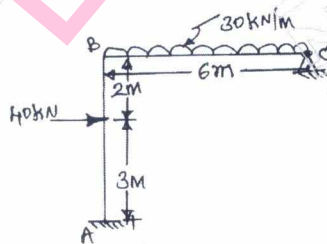

Fig. Q7
- 7 Analyse the portal frame shown in Fig. Q7 by stiffness matrix method. Draw BMD EI constant. (20 Marks)